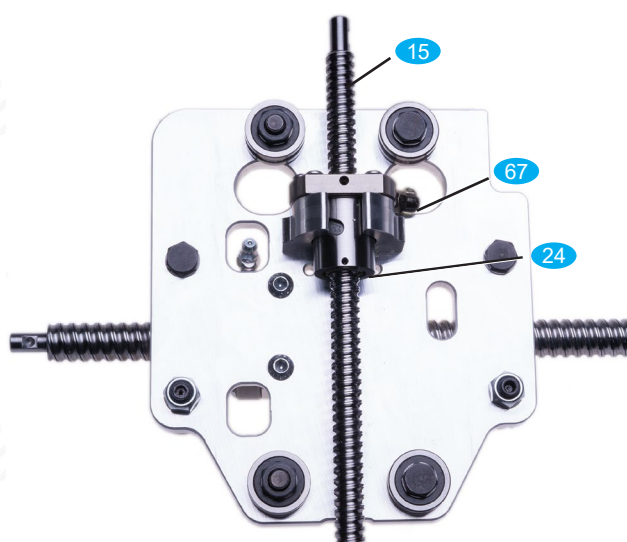

Fig. 14: Sled with the Z-spindle installed
- Finally screw the spindle with flat-head screws **F5** on the nut block on the slide, as shown in Fig. 14. Tighten the screws.